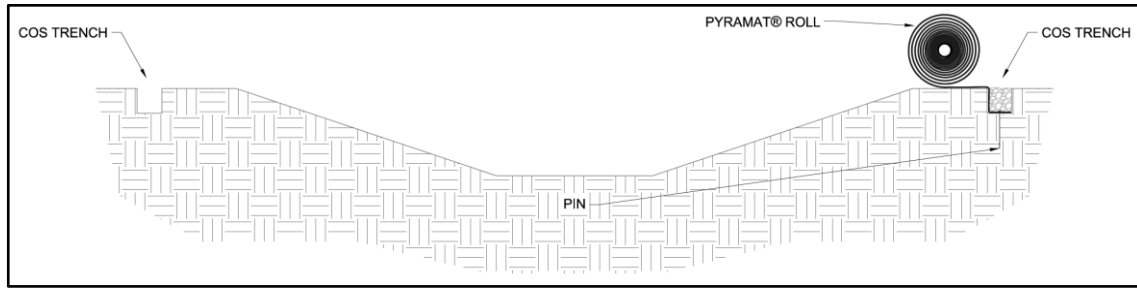

**Figure 7: Initial Channel (IC) Trench Complete**
5. Fold the PYRAMAT panel over the top of the compacted IC trench (Figure 7) and place each panel end into the respective COS trenches.